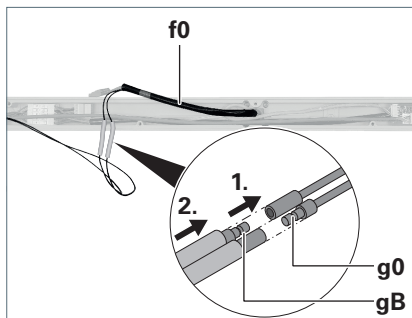

Fig. 9: Connecting the aerial.
4. Connect the aerial cables **g0** from the supply cable **f0** to the aerial cables **gB** in the crossbar, see Fig. 9.